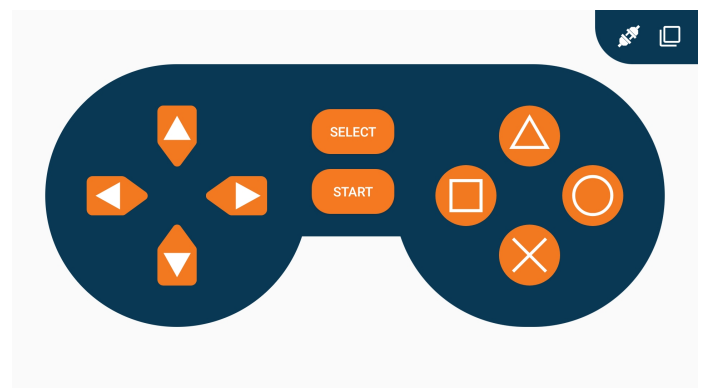

Fig. 4. Gamepad in Dabble App
- 7) Now use the *Gamepad* of the app in Fig. 4 to control the toy car.